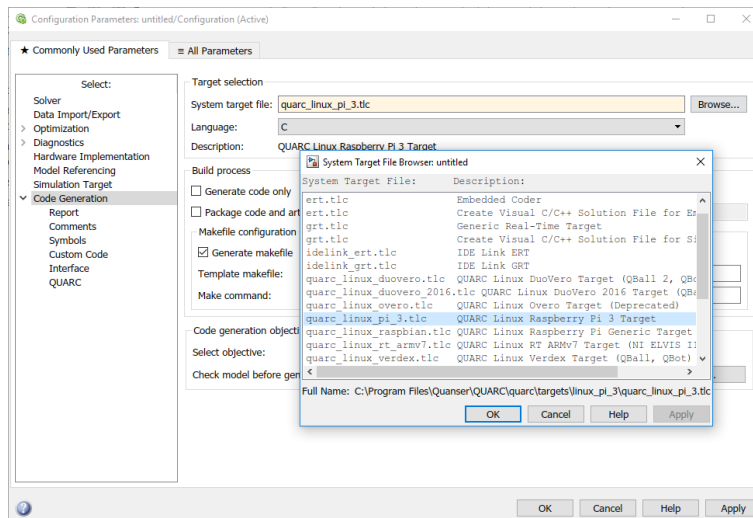

Figure 3.6: QUARC® Option menu
3. The System target file under *Code Generation* should be `quarc_linux_pi_3.tlc`. Browse through the system target list to locate the proper file if necessary (Figure 3.6).